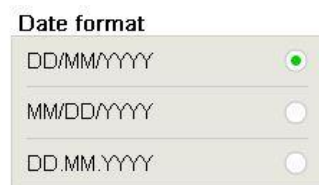

Figure 112
**Date format:** Select the preferred date format to be displayed in the **Status Bar** and printout (Figure 112).